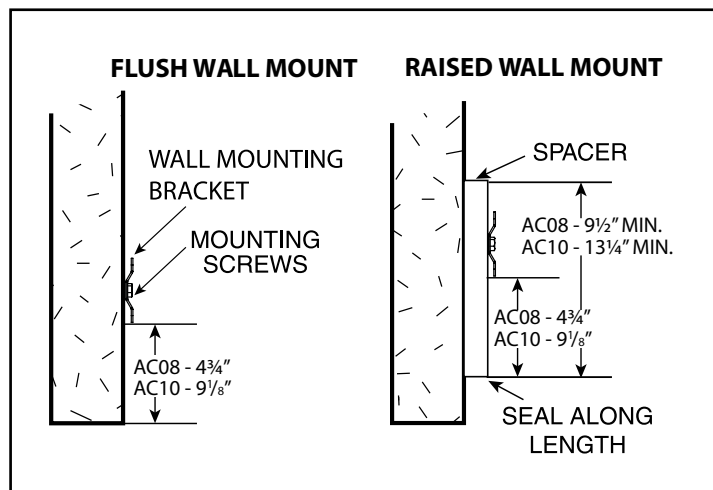

Figure 3 - Wall Mounting Location
- B. For optimum performance, the bottom of the air curtain (discharge nozzle) should be no more than 1" above the top of the door opening with the air curtain(s) mounted flush to the wall. If the air curtain must be mounted higher, it must be spaced out from the wall 3/8" for every inch the air curtain is above the door opening. See Figure 3. For optimum protection, any void between the air curtain and the wall should be sealed along the full length of the air curtain.
1. Position one wall mounting bracket over the door opening as shown in **Figure 3**. The bracket should be centered over the door opening. NOTE: For units longer than 120", install two wall mounting brackets in tandem across the door opening.